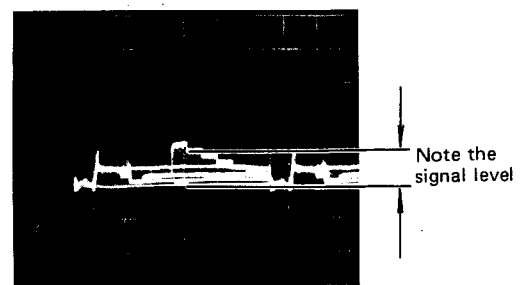

Fig. 5-6-29
- o Note the peak-to-peak signal level. (Fig. 5-6-29)
- o Note the peak-to-peak signal level of R and B signal. (Fig. 5-6-29)